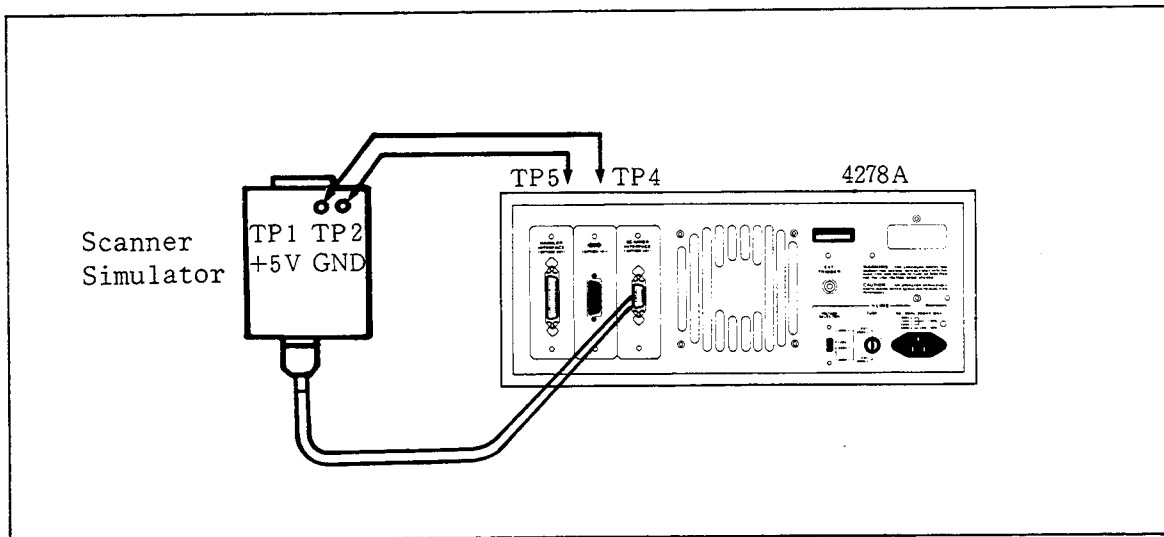

Figure 6-19. Scanner Simulator Connections
7. Connect the cable furnished with the scanner simulator to the scanner I/O connector on the rear panel of the 4278A. Refer to Figure 6-19.